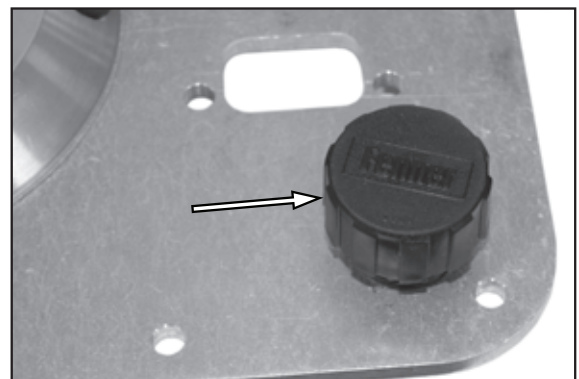

Figure 7.
3. See Figure 7. Remove the filler cap, and install a clean funnel with a filter.